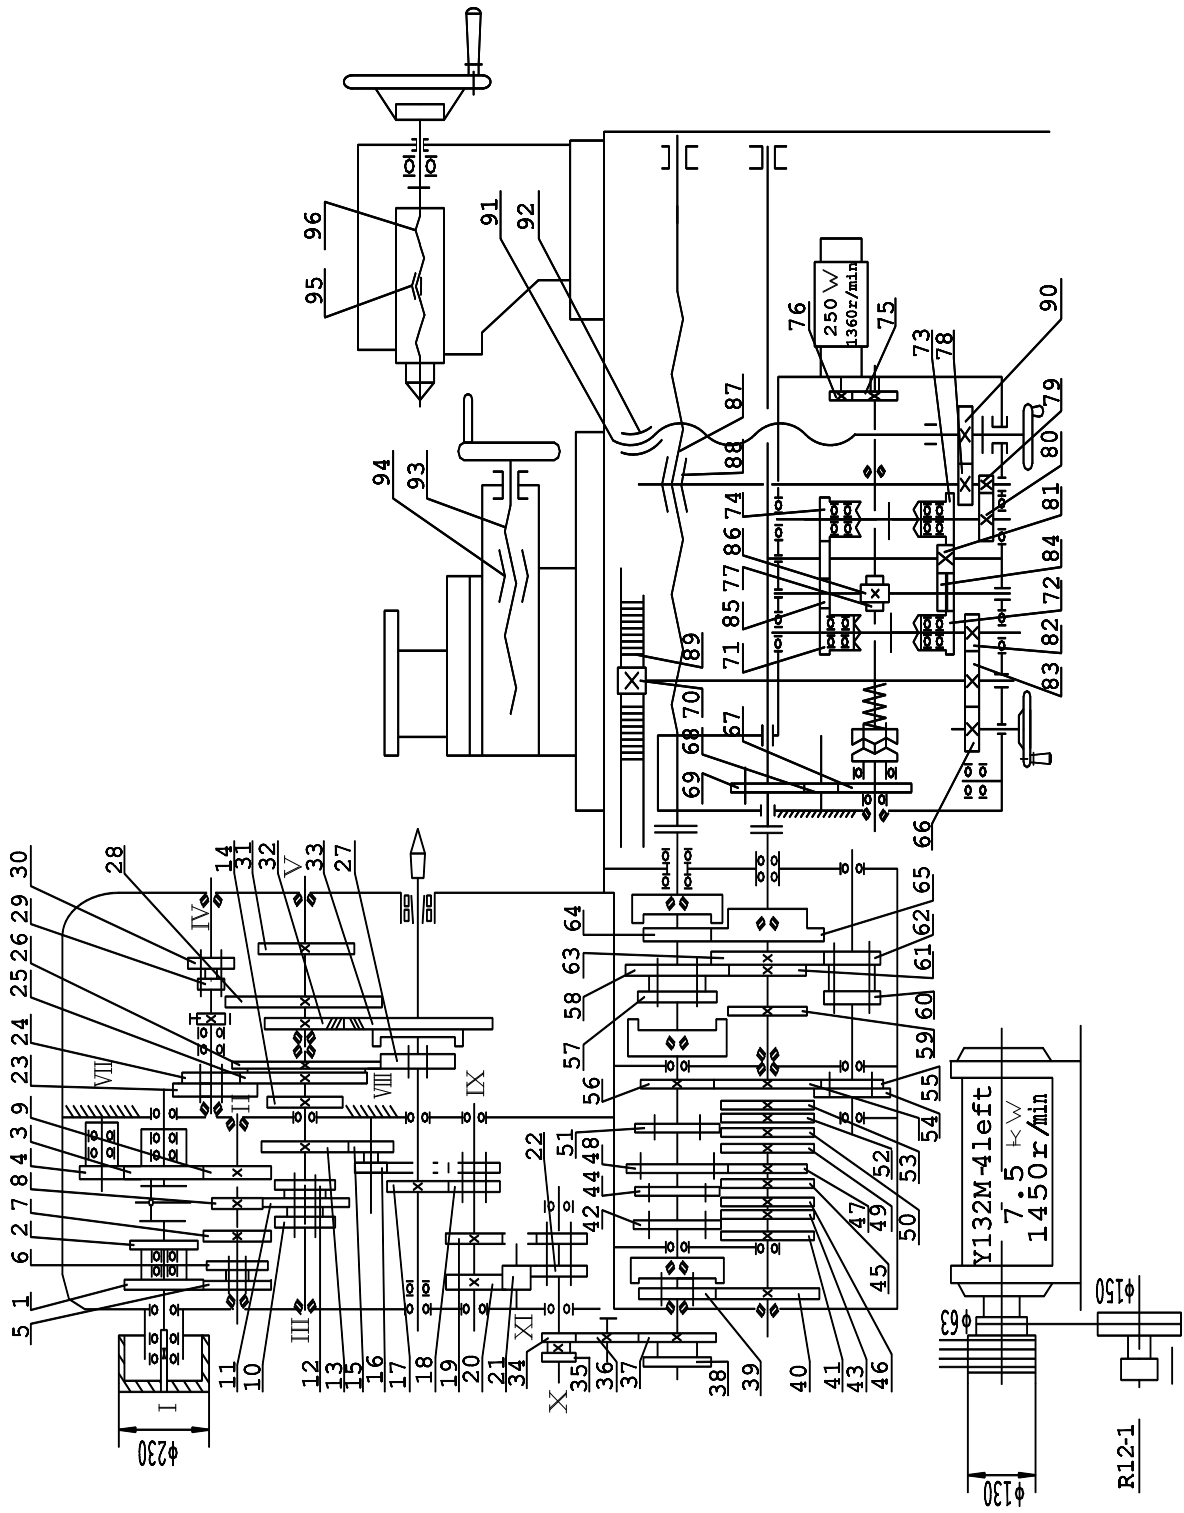
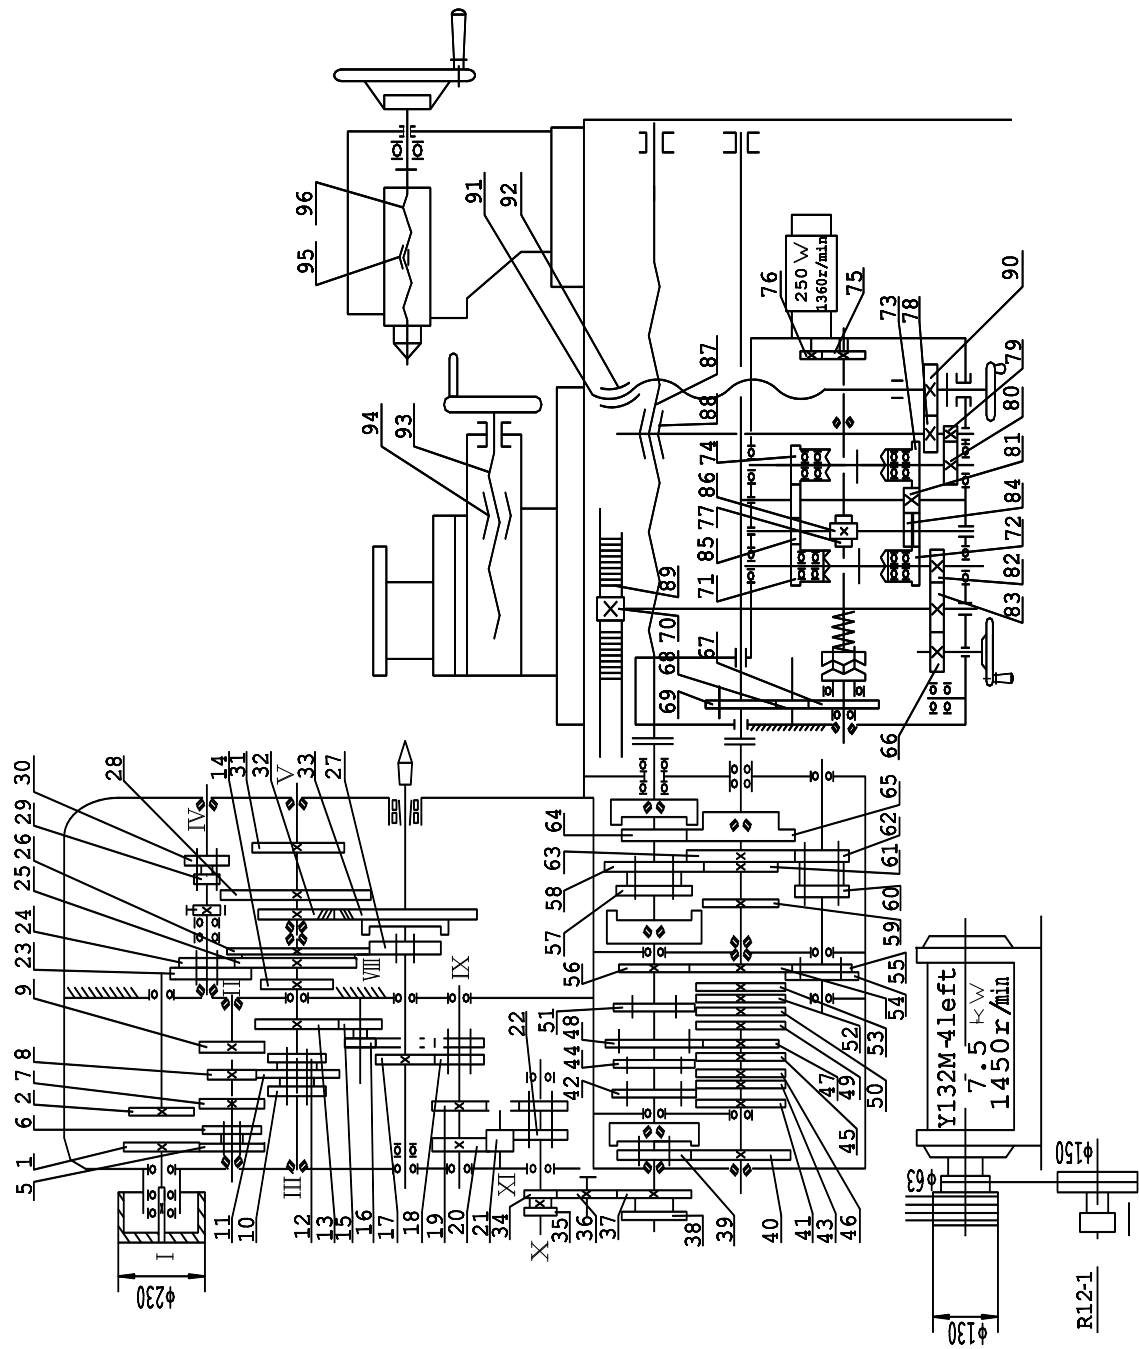

Fig. 5 Driving system drawing of the machine with hand-braking device
Fig. 6 Driving system drawing of the machine with foot-pedal braking device
The machine can be provided with hand-braking device, also with foot-pedal braking device. For the transmission system of the machine with hand-braking device, refer to Fig. 5 and for the transmission system, the machine with foot-braking device, refer to Fig. 6.
A workpiece is mounted in chuck or between two centers and driven by motor through driving mechanism (Fig. 5, Fig. 6 Driving system drawing of the machine).
- 1) Through feed box, feed rod and apron mechanism, by making the small gear 70 (Fig. 5, Fig. 6) engaged with the gears, rotating to move the saddle.
After shifting lever 3 (Fig. 7 and Fig. 8) on the front of the headstock to move gear 18 (Fig. 5 and Fig. 6) to make it engaged with the gear 16, longitudinal or cross feeds and pitches are changed as follows:
Shift the lever 5 ( see Fig.7) on the headstock to move the gear 22 (see Fig.5 and Fig. 6) for changing rotating direction of leadscrew, thus, you can cut left threads. If you want to cut special threads that are not specified by this machine, you should set change gears. And shift the lever 5 to V and the lever 6 to the position D.